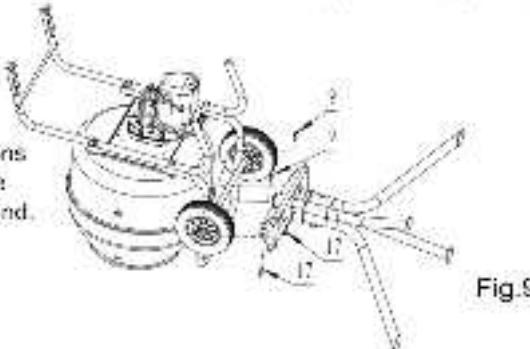

Fig.9
With the drum face down on the floor, locate the completed stand onto the axle, and secure with the two pins (17) and R clips (9) provided (Fig. 9).